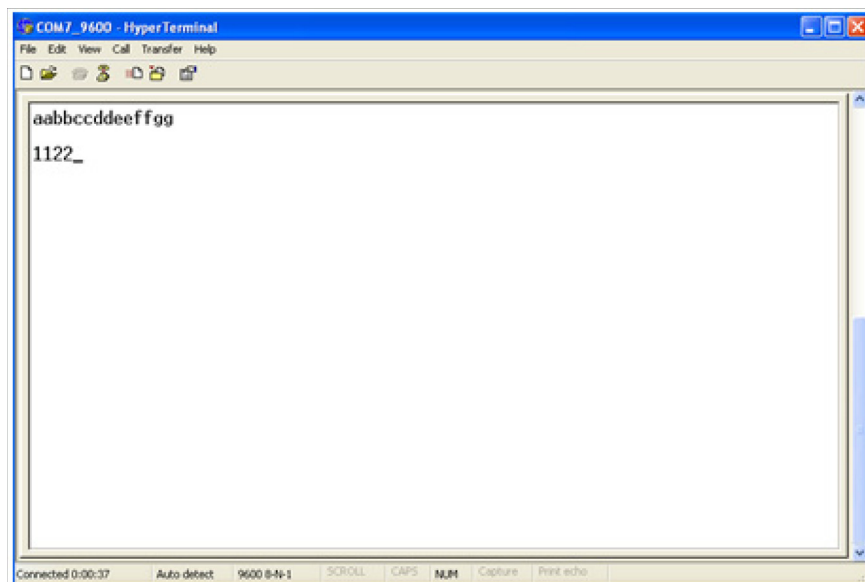

Figure 20-11. Duplicate Values
8. The HyperTerminal is configured. The values entered are replicated from the virtual COM port. Therefore, it appears as duplicate as shown in Figure 20-11.